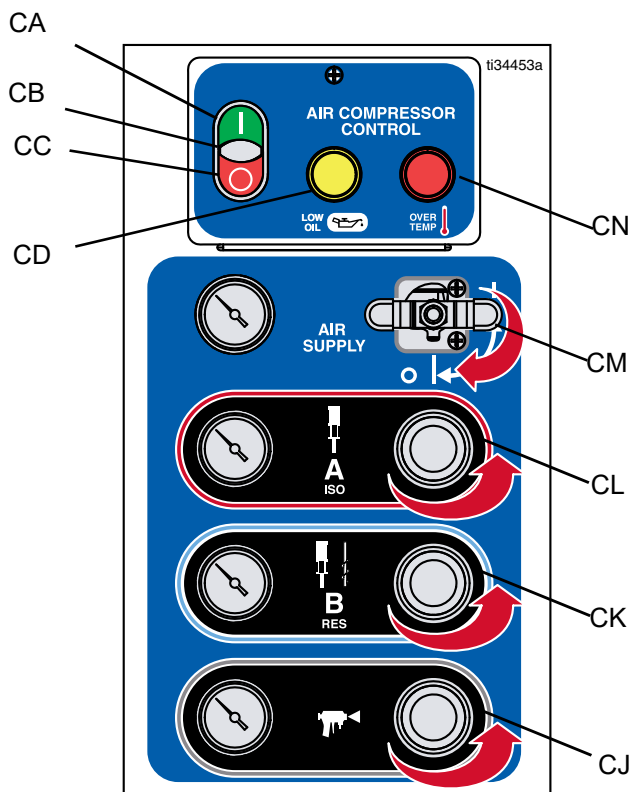

FIG. 28: Air Compressor Control Panel
- a. Close the main air supply valve (CM) on the air control panel. See FIG. 28.